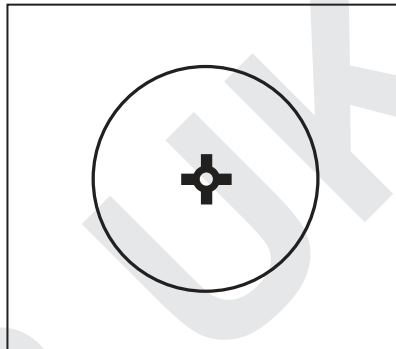

Figure 10
- Figure 10 shows the reticule. This reticule represents the approximate size of the laser beam on the target.